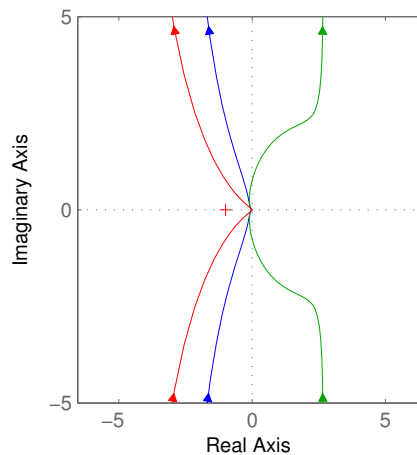

Figure 2: “Good” and “bad” Nyquist diagrams.
6. Consider the Nyquist plots in Fig. 2. Which corresponds to the system with the best performance? Do the corresponding Bode plots tell you anything that can help you predict the performance?